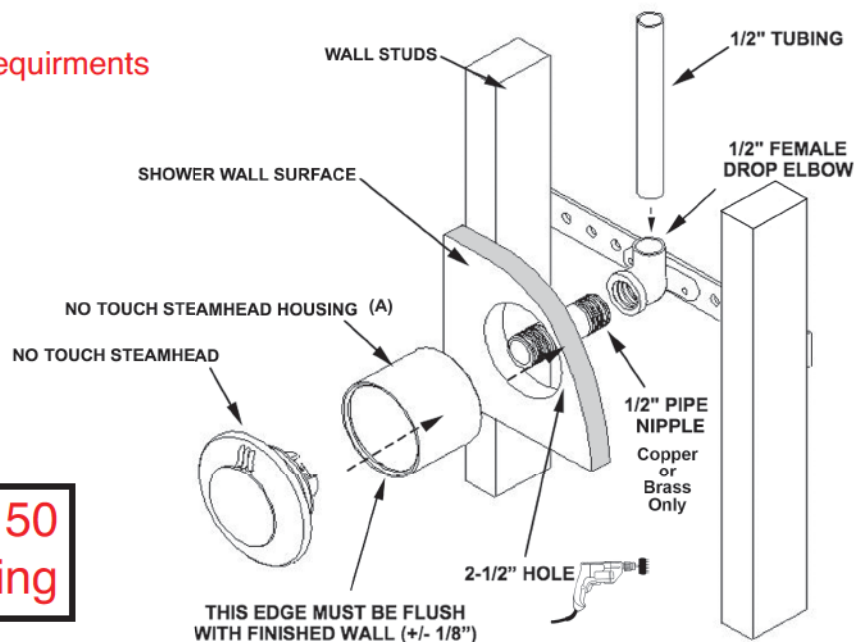

Figure 4
2. Connect the brass pipe or tubing from the steam outlet on the generator, to the 2-1/2" diameter hole in the shower wall. See **Figure 4** as a guide. Ensure that the steamhead housing is flush with the finished wall and secured into position. Use Teflon tape/solder for connections. Do not over tighten fittings. **DO NOT USE PVC CEMENT.**